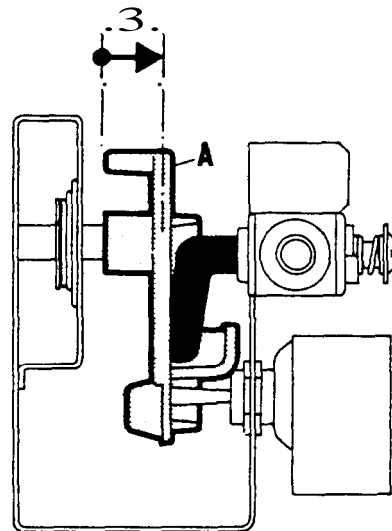

Fig. 14
3. Pull the driving disc "A" outwards (fig. 14).